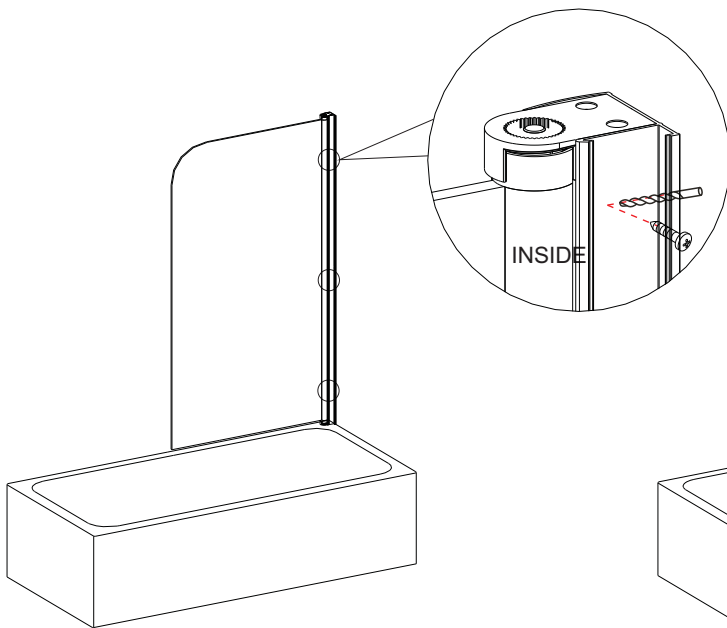

FIG 5
5. Drill 3 holes through the wall profile and fixed panel using a 3.0mm steel drill bit **B08092** Using the screw, fix the screen upright profile to the wall profile in 3 places. **Fig 5.**